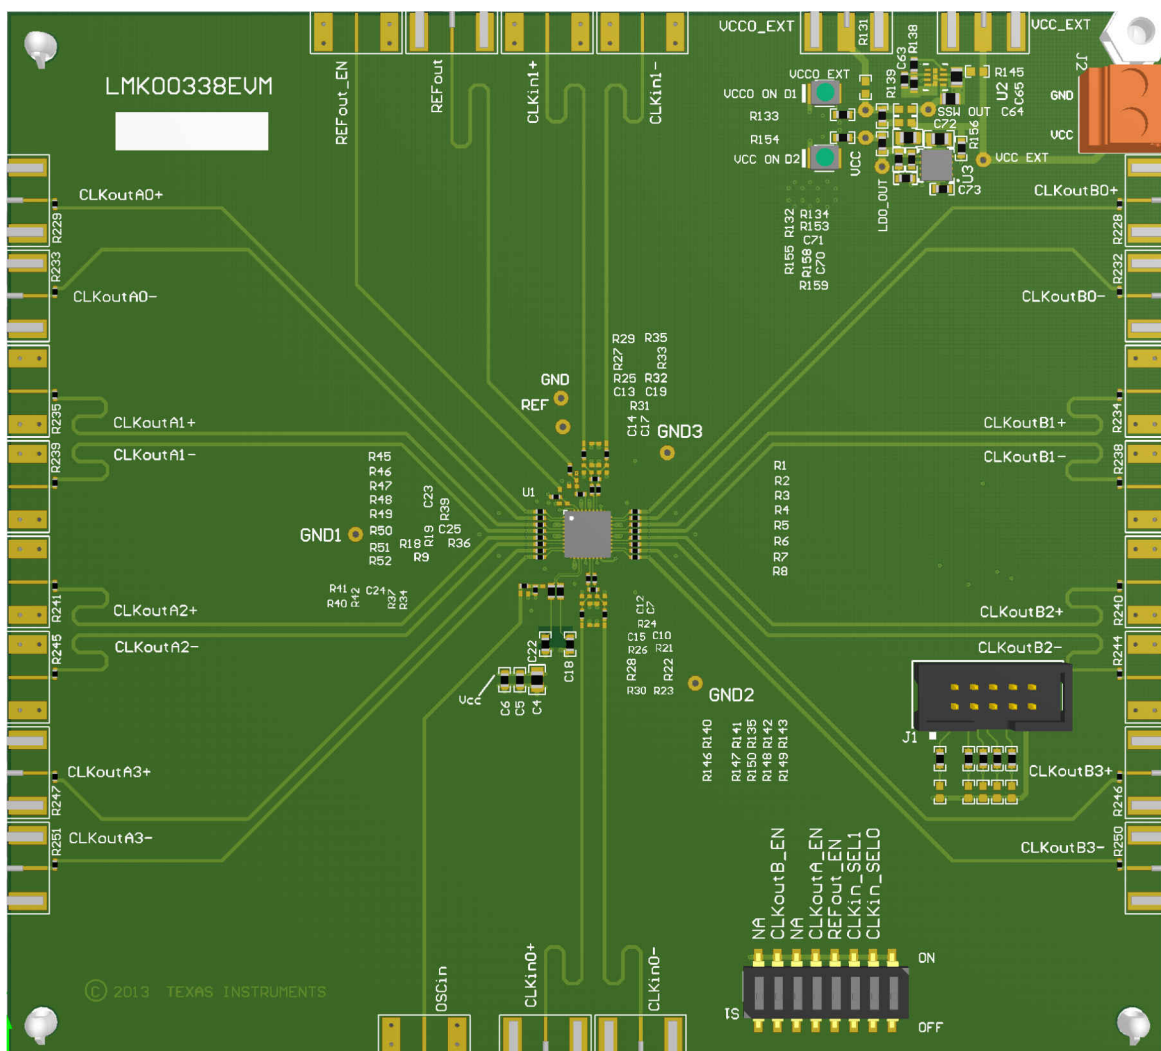

Figure 11-1. LMK00334 Layout Example
- For DC-coupled operation of an HCSL driver, terminate with 50 Ω to ground near the driver output as shown in Figure 11-1.